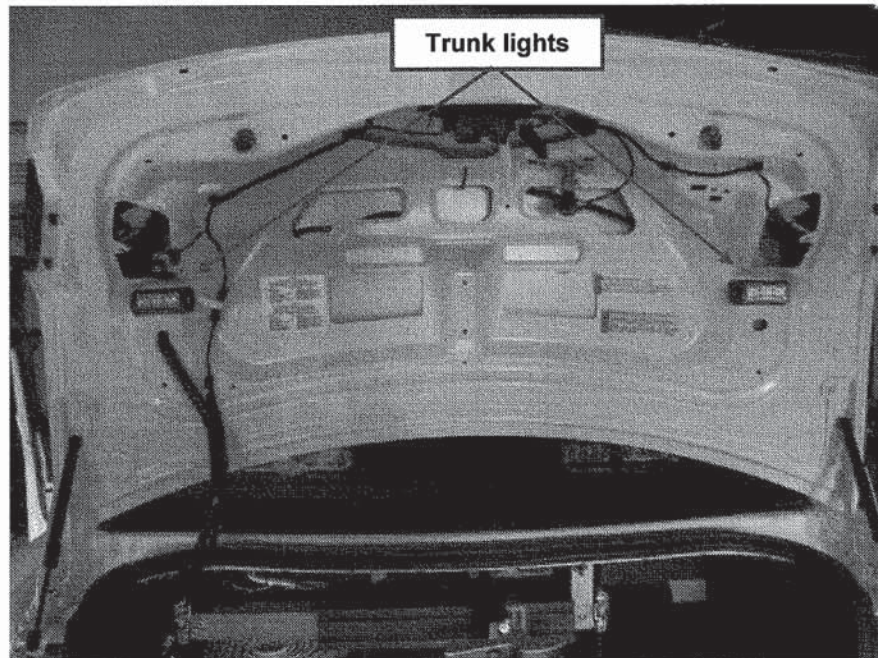

Figure 12 – Ford Police Interceptor Sedan – Placement of trunk-lid police lights
16. Ford Police Interceptor Sedan marked MP vehicle **shall** have police lights installed on the underside of the trunk lid to ensure maximum visibility on the roadside when the trunk is open (see *Figure 12*).